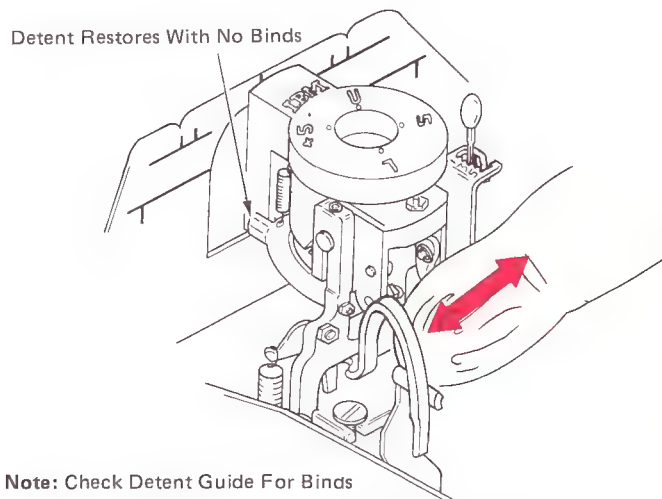

Figure 30 – Detent Restores Against Blade
2. Detent should restore with no binds against the blade of the tool (Figure 30). Do not move the tool when checking this condition.